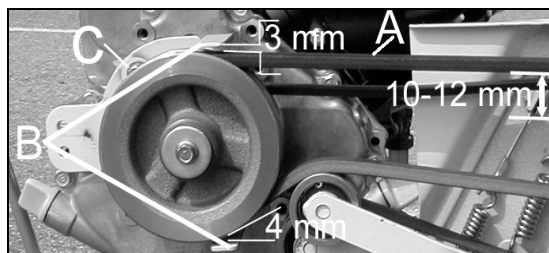

Figure 20
- Push the belt with a finger on (A, Figure 20) the belt must move from 10 to 12 mm. If the belt does not move accordingly, perform "tension wire" again.